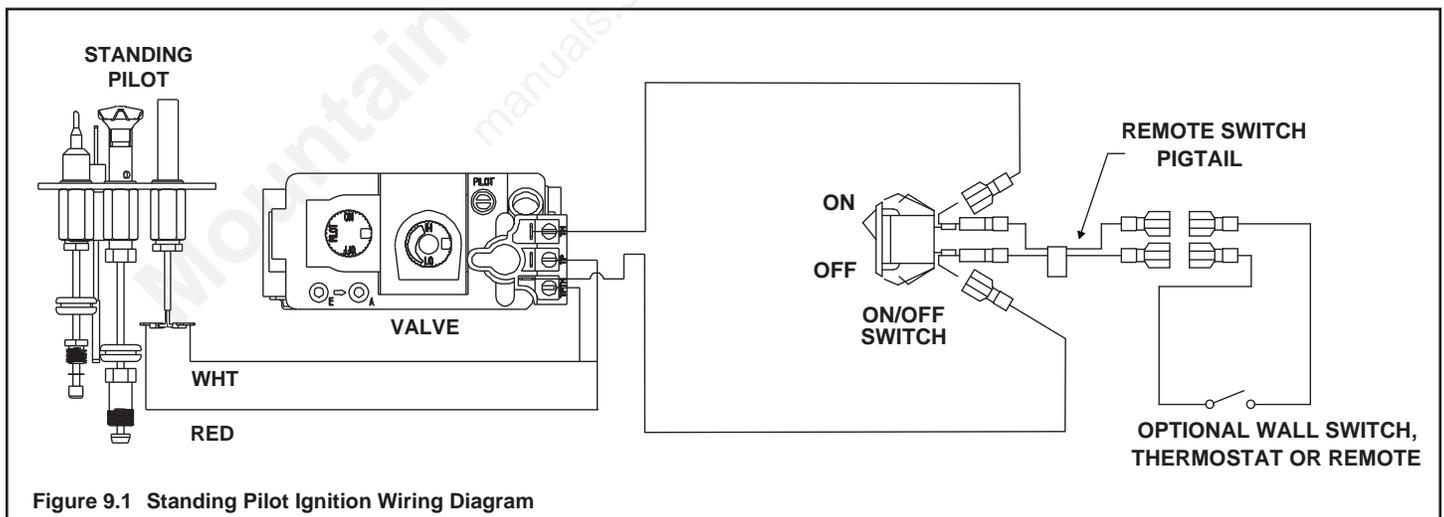

Figure 9.1 Standing Pilot Ignition Wiring Diagram
- If desired an additional wall switch or thermostat may be added to system as shown in Figure 9.1). Follow directions included with the optional wall switch.